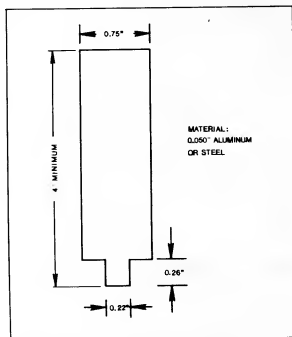

Figure 28. LED Replacement Tool
**NOTE:** Installing a new LED in the console requires the use of a special tool that can be fabricated from a piece of sheet metal with a sabre saw. See Fig. 28 for dimensions.
nected with reversed polarity. Use fabricated tool (Fig. 28) to push LED into holder. LED "clicks" into place. Any tool without a shoulder usually pushes LED out of the holder.